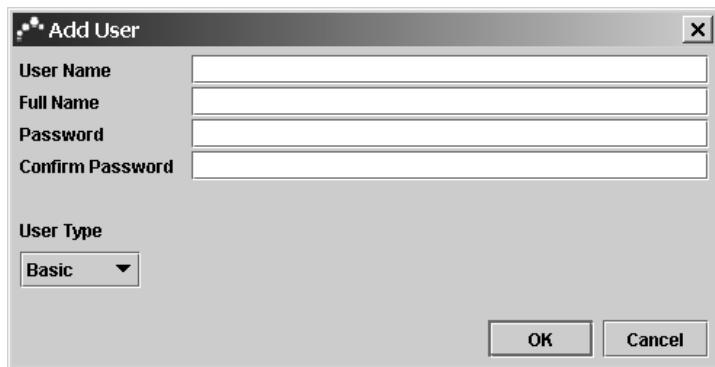

Figure 2-22. Add User dialog box
2. Click **Add**. The Add User dialog box appears (Figure 2-22).